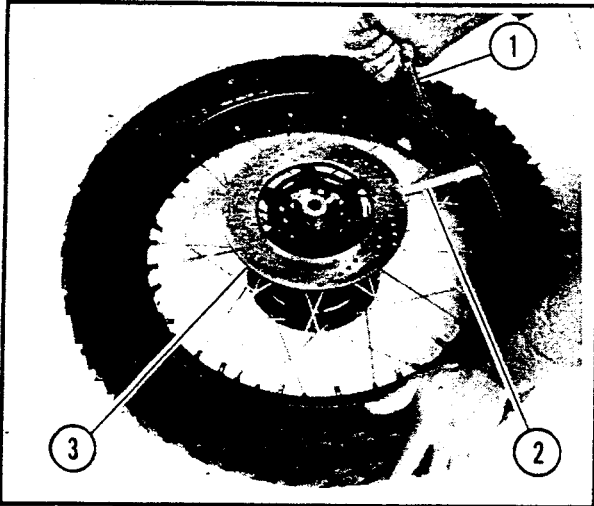

Figure 5-68. Pulling Tire Bead Over Edge of Rim
9. See Figure 5-68. Use one tire iron (1) to begin pulling tire bead over edge of wheel rim. Stop and place second tire iron (2) under disc (3) and tire bead to prevent bead from slipping back onto wheel rim.